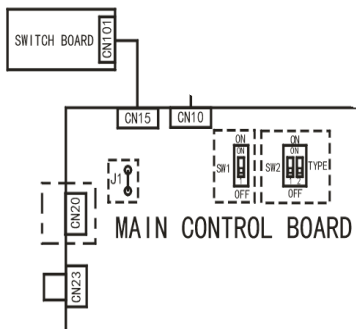

Fig. 5 – Main Control Board
1. Cut off the J1 jumper cable located on the Main Control Board (see Fig. 5).